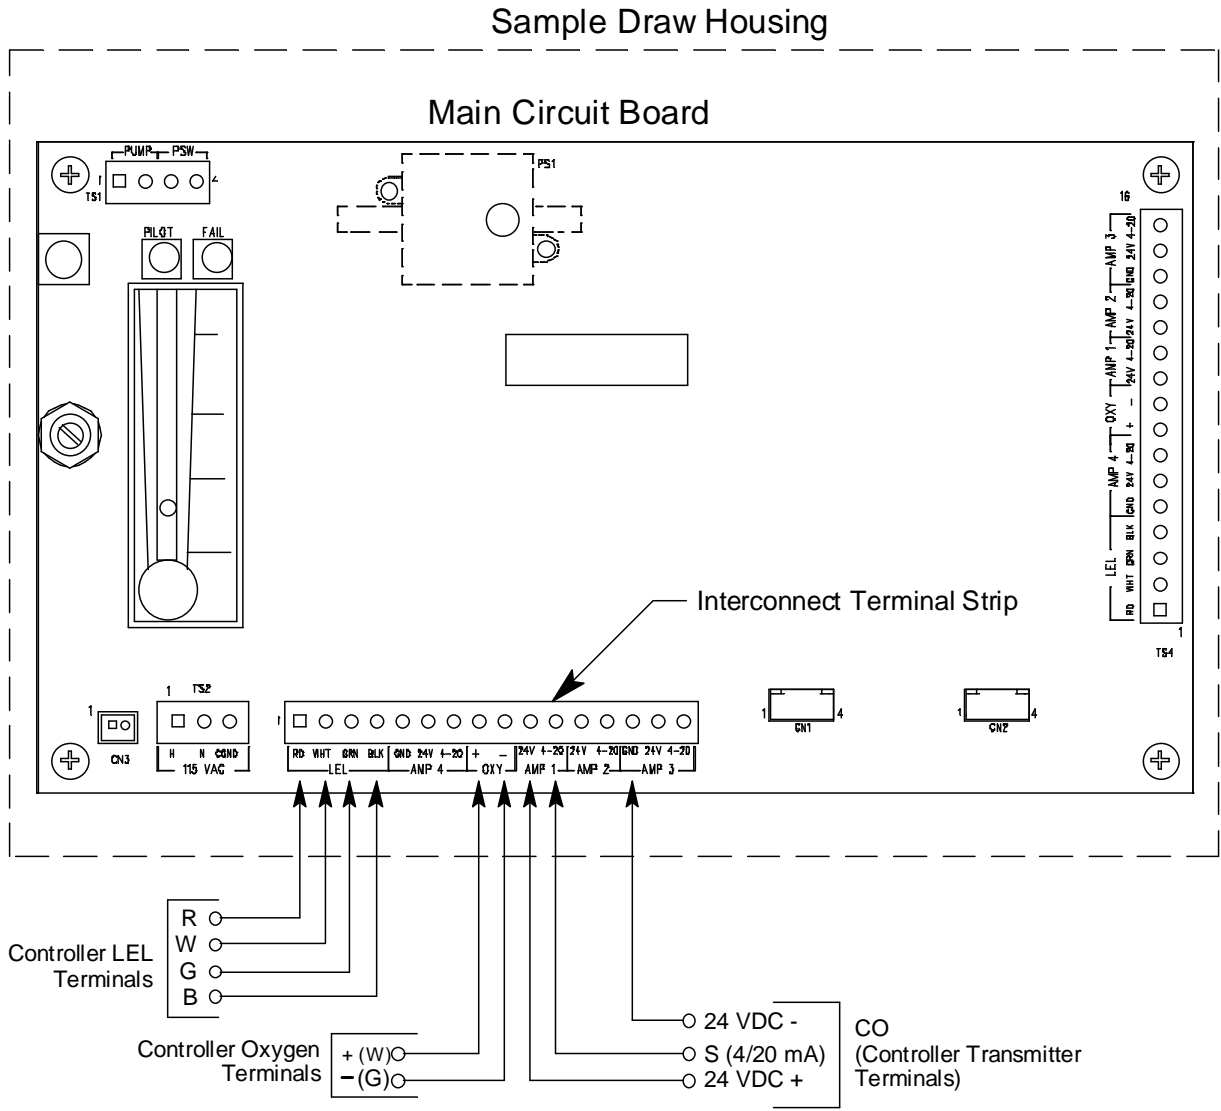

Figure 5: External (Field) Wiring, Sample Draw Detector
5. Connect the cable to the sample draw detector's interconnect terminal strip as shown in Figure 5.
8. Connect the cable or wires at the controller to the appropriate channels' detector/transmitter terminal strip as shown in Figure 5. Refer to the controller operator's manual for the controller's detector/transmitter's terminal designations. The LEL and oxygen detector channels are direct connect type and the CO channel is 4 - 20 mA transmitter.